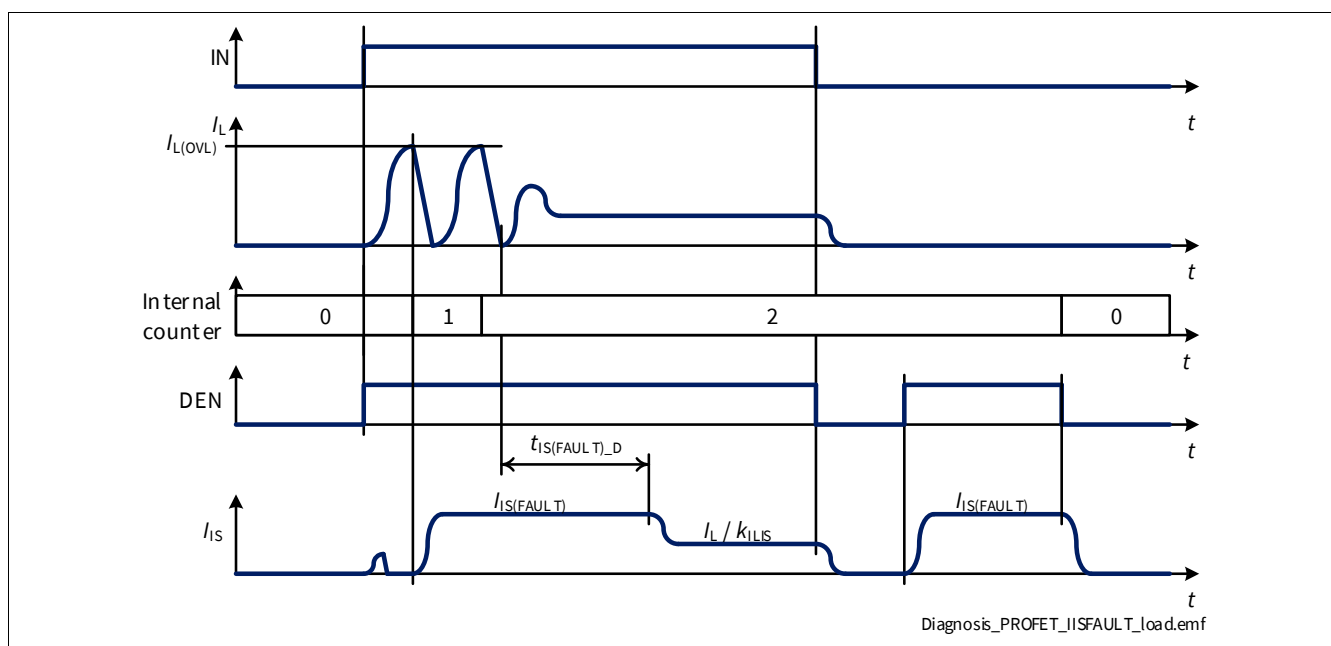

Figure 34 $I_{IS(FAULT)}$ at Load Switching
- If the channel is ON and the number of retries is lower than “ $n_{RETRY(CR)} + n_{RETRY(CYC)} * n_{RETRY(NT)}$ ”, the current $I_{IS(FAULT)}$ is provided for a time $t_{IS(FAULT)_D}$ after the channel is allowed to restart, after which $I_{IS} = I_L / k_{ILIS}$ (as shown in Figure 34). During a retry cycle (while timer t_{RETRY} is running) the current $I_{IS(FAULT)}$ is provided each time the channel diagnosis is checked